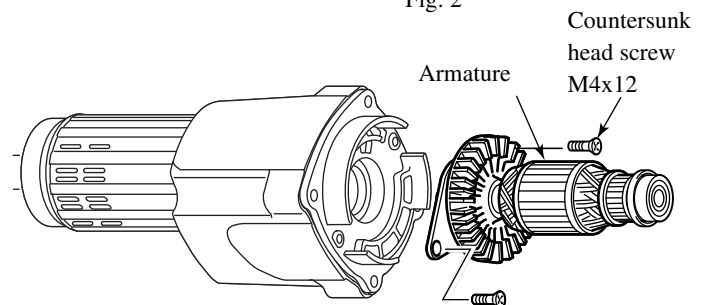

Fig. 3
- 3) Remove Countersunk head screw M4x12 (2 pcs) and Armature. (See Fig.3)